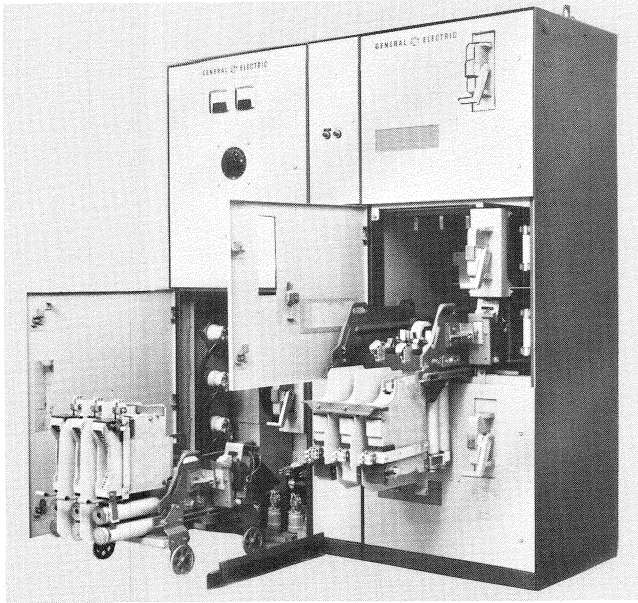

Fig. 8. One-high and three-high contactors in service position
The disconnect assembly for these contactors is a complete unit containing arc chutes, power disconnects, power fuses, intermediate power or control stabs, grounding straps, interphase barriers, and operating shaft assemblies (see Fig. 7). This assembly is mounted on the contactor in such a manner that it can rotate. It can be rotated into positions shown in Fig. 8 for inspection or service
Move the contactor to its service position as shown in Fig. 8. To place disconnect assembly of the three-high contactor into its inspection position, it is necessary to first remove the special positioning handle.
1. Rotate the disconnect assembly to the service position. (See Fig. 8.)